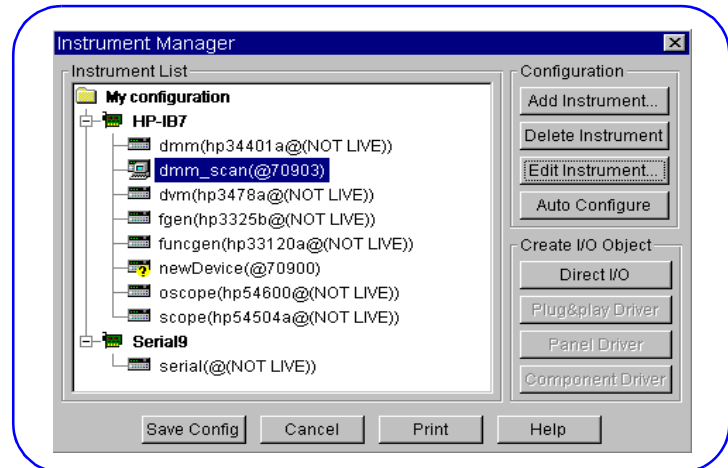

Figure 32. HP VEE Instrument Manager - Configuration
- 3 For an instrument at Logical Address 70903, highlight *newDevice2(@70903)*. Then, click *Edit Instrument* and set the instrument name to *dmm_scan* (see Figure 32).